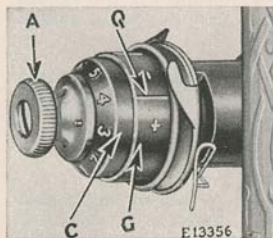
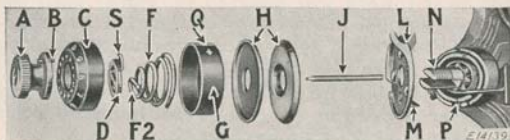
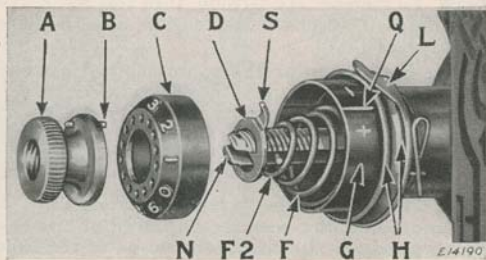

FIG. 18. NEEDLE THREAD TENSION
FIG. 19. NEEDLE THREAD TENSION DISASSEMBLED
FIG. 20. REASSEMBLING AND REPLACING THE TENSION
The numbered dial (C, Fig. 18) is marked with numbers ranging from 0 to 9, which indicate different degrees of tension which can be produced. The numbers do not denote a particular size of thread.
CAUTION—It is important for the tension thumb nut (A, Fig. 18) to have a firm fit on tension stud (N, Fig. 19), to keep the numbered dial (C) in the position set for the required tension. To remedy a loose fit of the nut, remove parts A, C, D, F and G, Fig. 20, and slightly spread the stud, then re-assemble the parts as instructed on pages 22 to 24 inclusive.
NOTE: The needle thread tension, Figs. 18 to 20 inclusive, is correctly adjusted at the factory to produce the complete range of tensions with one revolution of the thumb nut (A).
Turn the thumb nut (A, Fig. 19) away from you (toward the left) until it stops at "0" on the num-
bered dial (C); then press in the dial to disengage the pin (B) in the thumb nut and remove the thumb nut, dial, stop washer (D), tension spring (F), indicator (G), the two tension discs (H), thread guard plate (L), and the tension releasing pin (J), as shown in Fig. 19. To remove the pin (J) from the stud (N), take off the face plate and tilt it so that the pin will drop out.
stud, being sure that the lug (M, Fig. 19) engages the short recess (P) to prevent the plate from turning on the stud. Next, place the two tension discs (H) on the stud, having the flat thread-bearing sides of the discs together; then replace the indicator (G) with the large open side facing end of stud so that the plus and minus signs will be readily seen from a sewing position as shown in Fig. 20. Insert the tension spring (F) in the indicator so that the first half turn of this spring will straddle the lower half of the tension stud. Guide the stop washer (D) onto the stud so that the extension (S) will be above the tension stud as shown in Fig. 20.